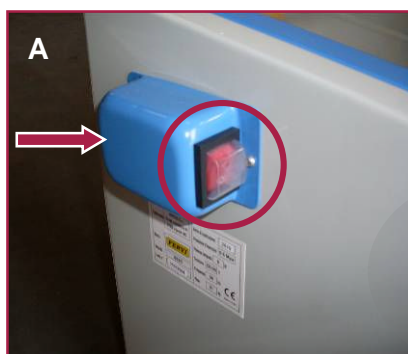

Figure 6 - Detail of switch and socket plug.
1. connect the plug on the transformer cable into the socket at the rear of the box mounted on the left side of the machine (arrow in **Figure 6**).
Press the lamp switch on the front of the box mounted on the left side of the machine (**Figure 6**), putting it in position "I".